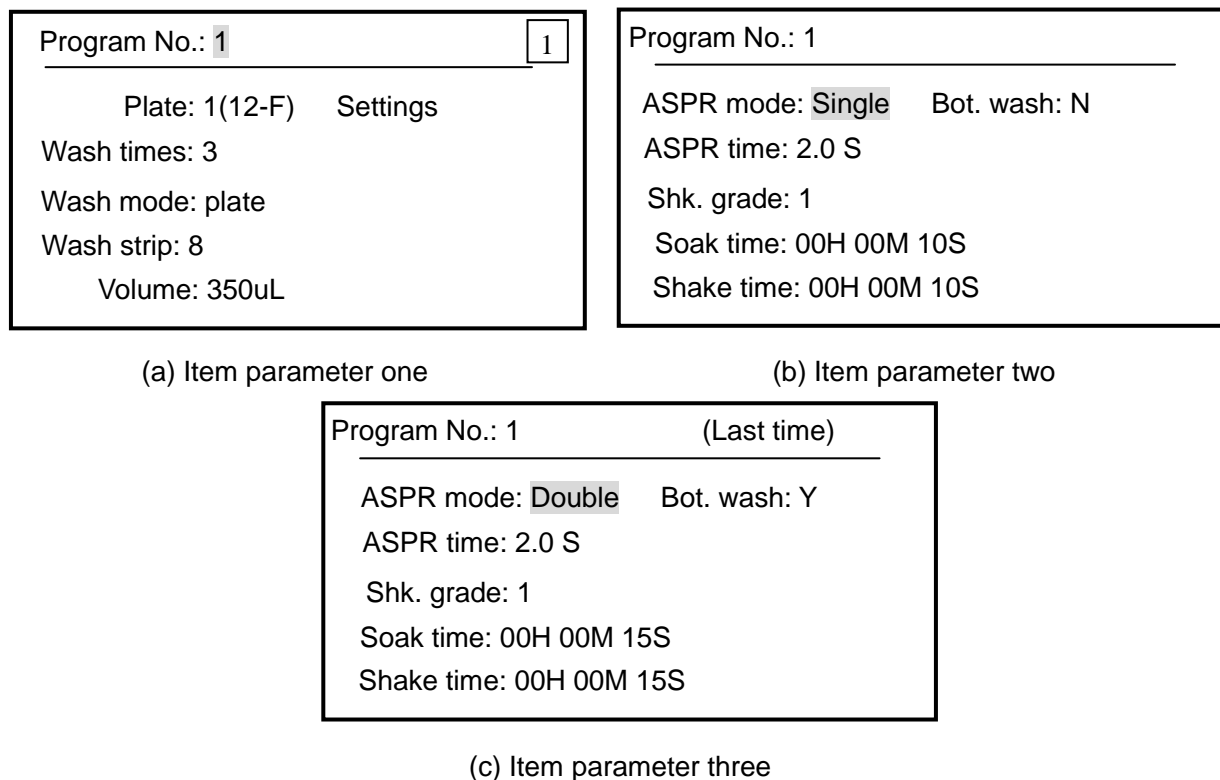

Fig. 4-2 Item parameters
"Settings", and pressing **START** will get into the parameter setting program, as shown in Fig. 4-2:
If the washing time is more than twice (including twice), the system will ask for a parameter setting for the last washing, as shown in Fig. 4-2 (c). The upper right corner of the screen displays "(Last time)", and the detailed parameter setting is the same as items 8~13.